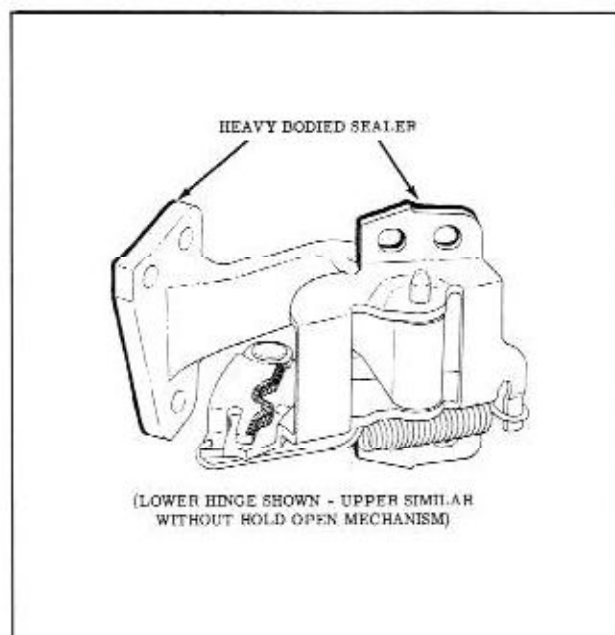

Fig. 17-26 Door Hinge Anti-Squeak
1. As an anti-squeak precaution, before installing door, coat attaching surface of hinge with heavy-bodied sealer. (Fig. 17-26)